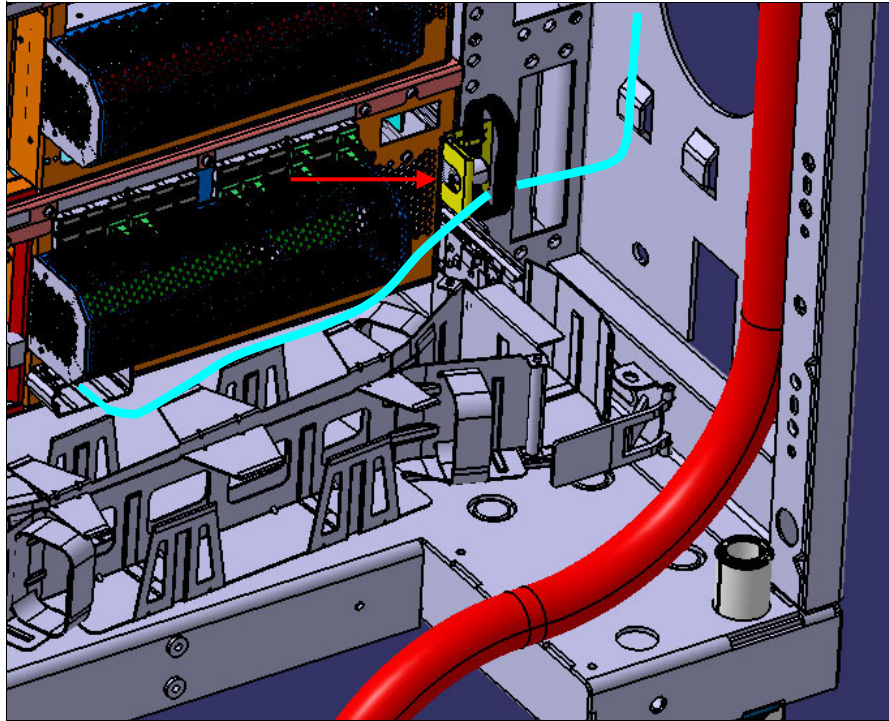

Figure 3-3 I/O drawer interlock bracket
9. An I/O interlock bracket is required on each drawer. Install the interlock brackets where the orange shipping brackets were located. The bracket is installed on the rear, right side in an I/O rack and the rear, left side in the compute rack I/O enclosure (as viewed from the rear of the system). See Figure 3-3.